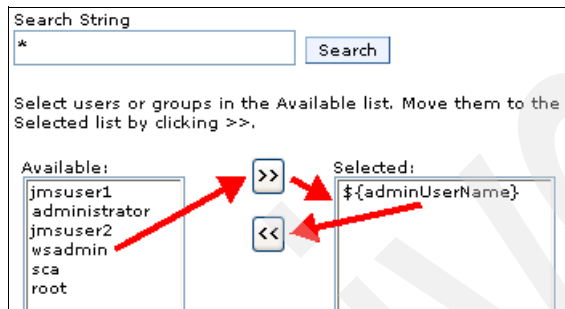

Figure A-39 Selecting a user for Alphablox Administrator
6. In the next panel (Figure A-39):
11. Map the **wsadmin** user for AlphabloxAdministrator and delete the **\${adminUserName}** user (Figure A-39).